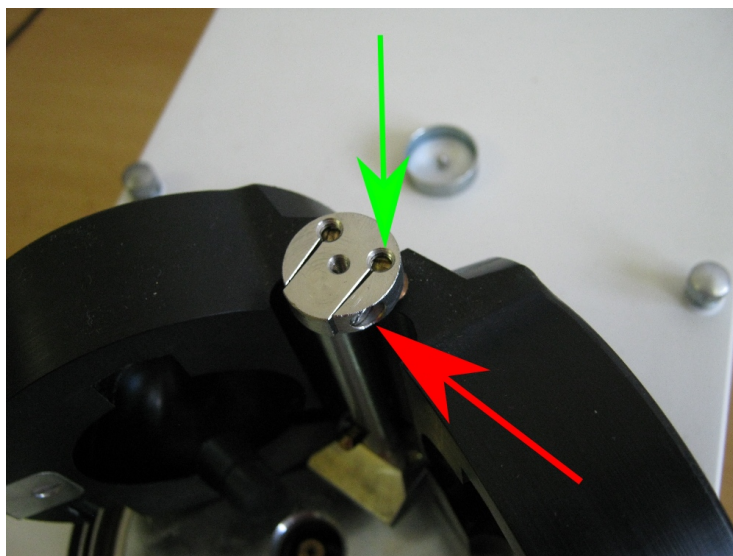

Figure 3: Fixing screw (red) and adjusting screw (green)
4. Unscrew top cover from the column which holds coils and take a look to Figure 3. First, loosen fixing screws (red arrow). Then set proper mechanical stiffness of each side of coils with adjusting screws (green arrow).